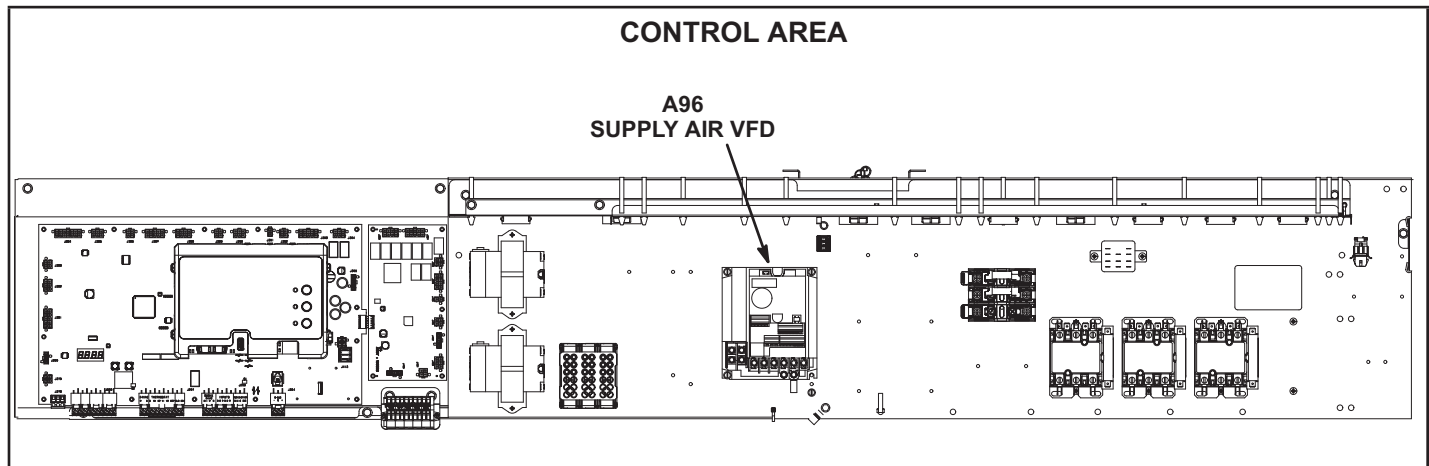

FIGURE 32
- 4 - Locate the A55 Unit Controller. Refer to FIGURE 32.